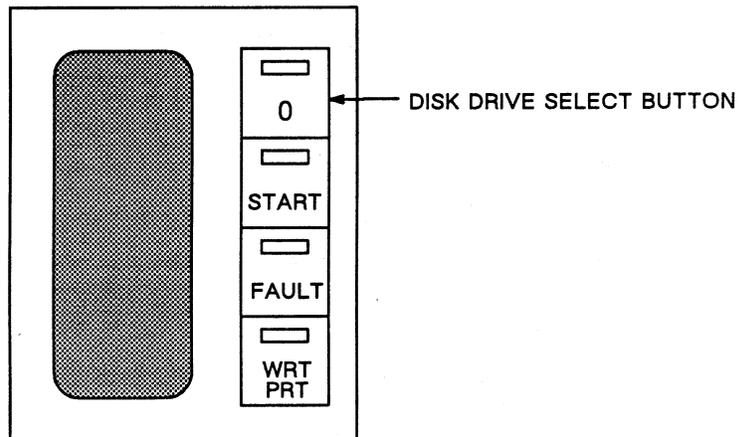

Figure 7-20. 515MB Disk Drive Select Button, First Configuration
18. Change the disk drive select button on the front of disk drive 1 to 1. See Figure 7-20.
Figure 7-20 shows the location of the disk drive select button on a 515MB disk drive (CDC).